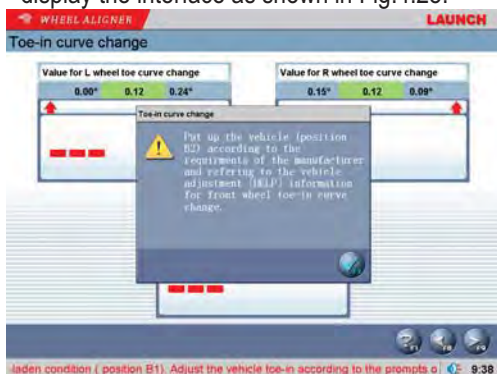

Fig.4.28
4. Put up the vehicle (to position B2) according to the requirements of the manufacturer. The screen display the interface as shown in Fig.4.28: